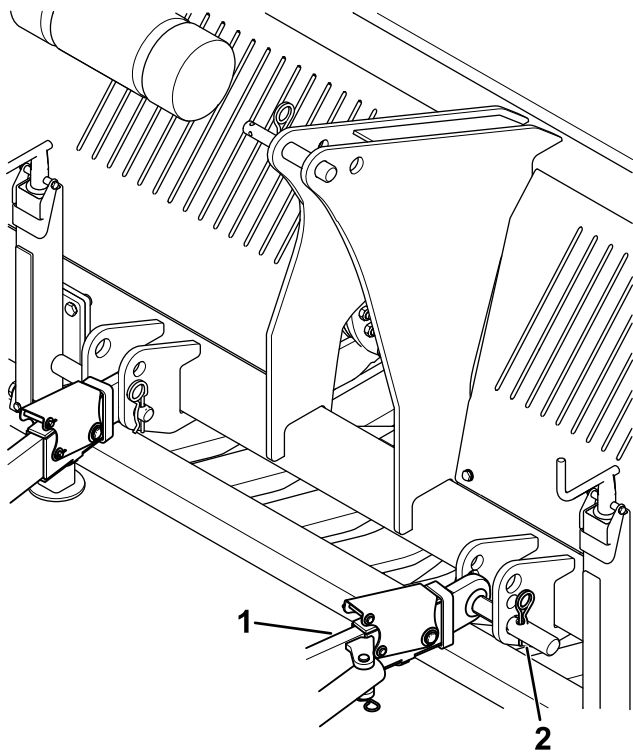

Figure 27
8. Remove the lower link arms (Figure 27).